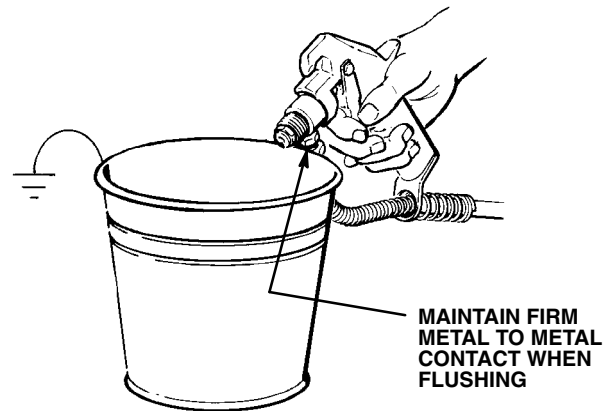

Fig 4
7. Hold a metal part of the gun firmly against a metal waste container. See Fig 4. Hold the trigger open, turn on the sprayer, and slowly increase the pressure just until the sprayer starts. Keep the gun triggered until all air is forced out of the system and the solvent flows freely from the gun. Release the trigger and engage the gun safety latch.